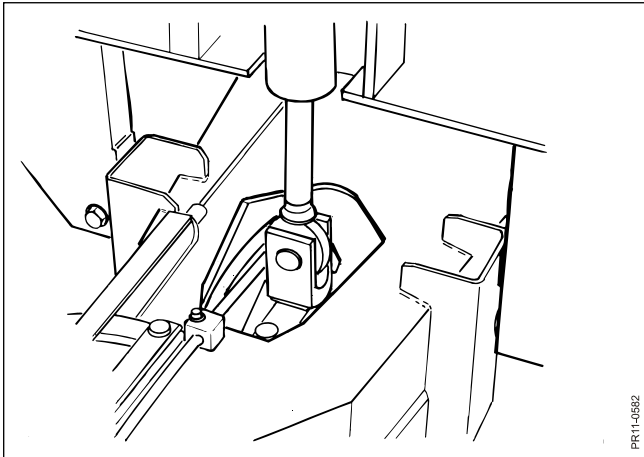

Fig. 9.3
- Fig. 9.3** Under certain circumstances feed remains can gather around the front weighing cell. These remains must be removed by lifting the mixing tank enabling you to remove it with your hands.